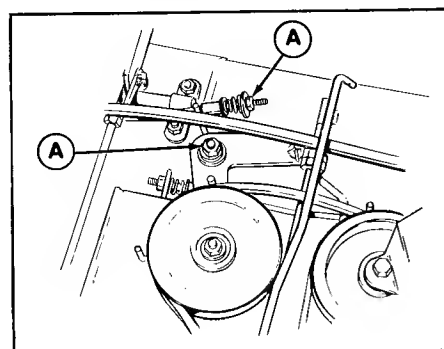

Figure 50.
5. If adjustment is required, turn adjusting nuts (A, figure 50) until proper clearance is reached.